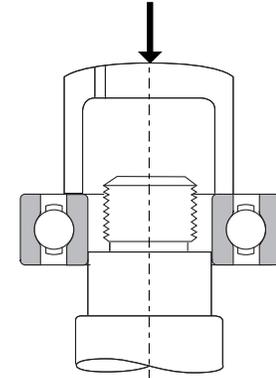

Figure 10.52 – Press Mounting of Inner Ring
**Press Fits** – Fitting with a press is widely used for small bearings. Before mounting, oil should be applied to the fitted shaft surface to make insertion smoother. A mounting tool is placed on the inner ring as shown in Figure 10.52. The mounting tool must not be placed on the outer ring for press mounting, because this may damage the bearing. The bearing is slowly pressed onto the shaft until the side of the inner ring rests against the shoulder of the shaft.